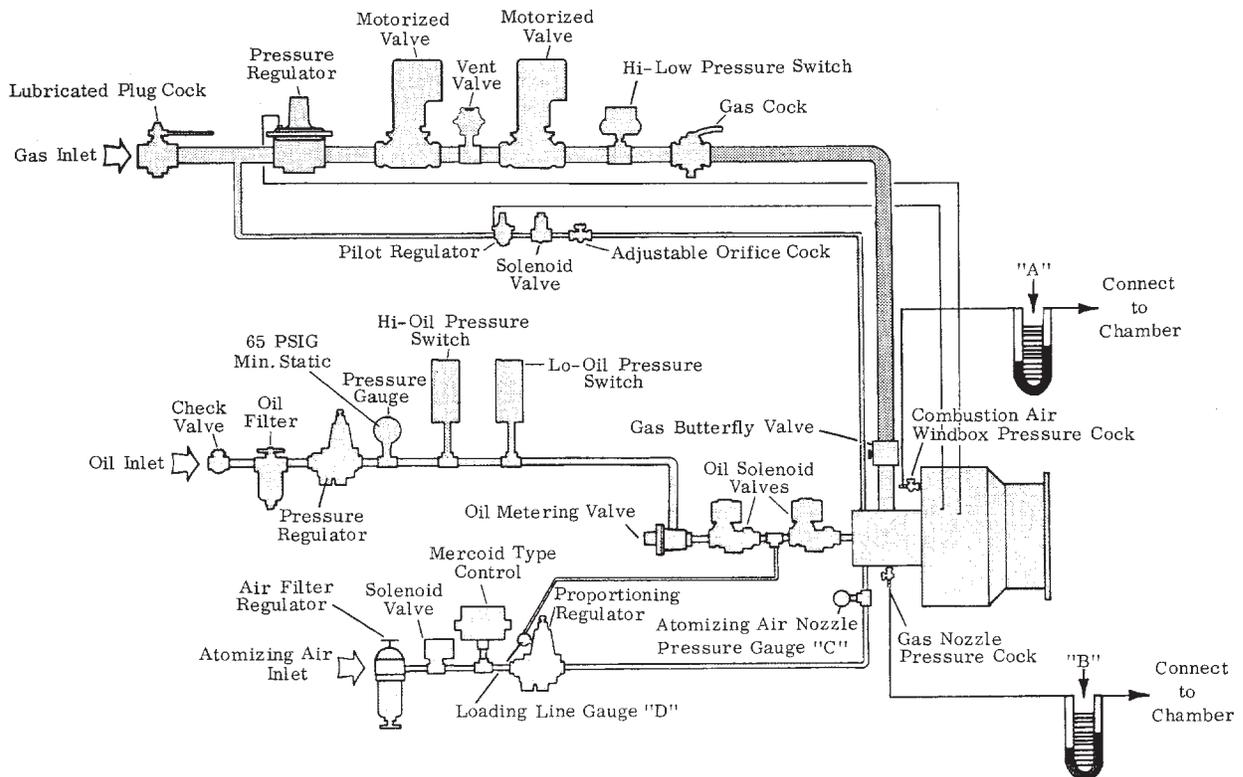

Figure 3.5. Component Identification
Gas, Oil and Atomizing Air Piping (see Figure 3.5)
9. See "Pressure Settings" table on page 12 for pressures at locations A, B, C and D on Figure 3.5.
Figure 3.5 shows the order in which the components appear in the valve trains and the approximate location where the valve trains connect to the burner. The pressure checking cocks are also shown in their approximate locations. This schematic is NOT an exact representation of the burner's appearance and is intended only to aid in identification of the various components.
1. The components involved in the linkage are as follows (see Figure 3.5): rod A and driven arm A transfer the motion of the control motor to the jackshaft; driving arm B, rod B and driven arm B1 transfer motion from the jackshaft to the combustion air butterfly valve; driving arm C, rod C and driven arm C1 transfer motion from the jackshaft to the gas butterfly valve; driving arm D, rod D and driven arm D1 transfer motion from the jackshaft to the oil metering valve.
1. The components involved in the linkage are as follows (see Figure 3.5): rod A and driven arm A transfer the motion of the control motor to butterfly shaft B; driving arm C, rod C and driven arm C1 transfer motion from butterfly shaft B to the gas butterfly valve; driving arm D, rod D and driven arm D1 transfer motion from butterfly shaft B to the oil metering valve.